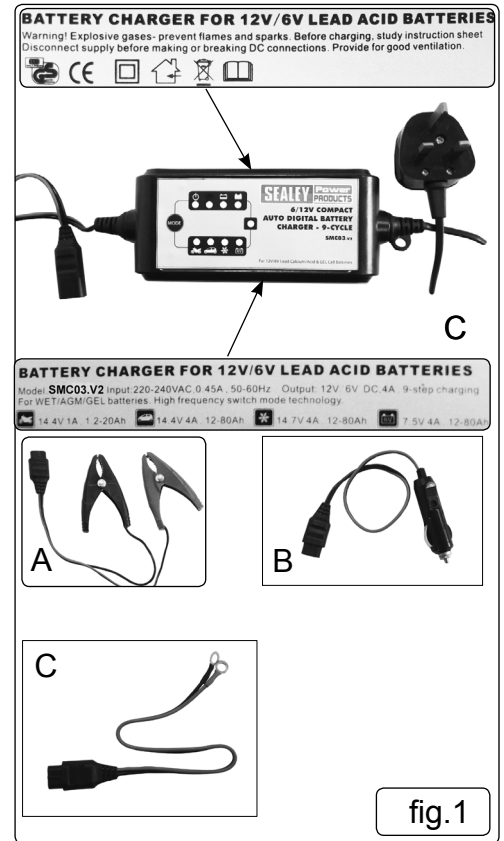

fig.1
- 4.1.1. The output cable from the charger terminates in a socket into which three alternative leads can be connected. fig.1.